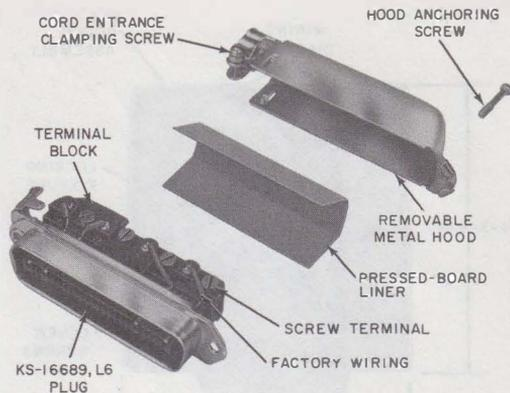

Fig. 10—153A Adapter
- A removable metal hood (Fig. 10) with a pressed-board liner contains and protects spade-tipped cord leads or wire conductors terminated beneath the screw terminals. If the liner is of early production design and has an opening in the top portion, a piece of vinyl tape placed over this opening will provide insulation between conductors and hood.